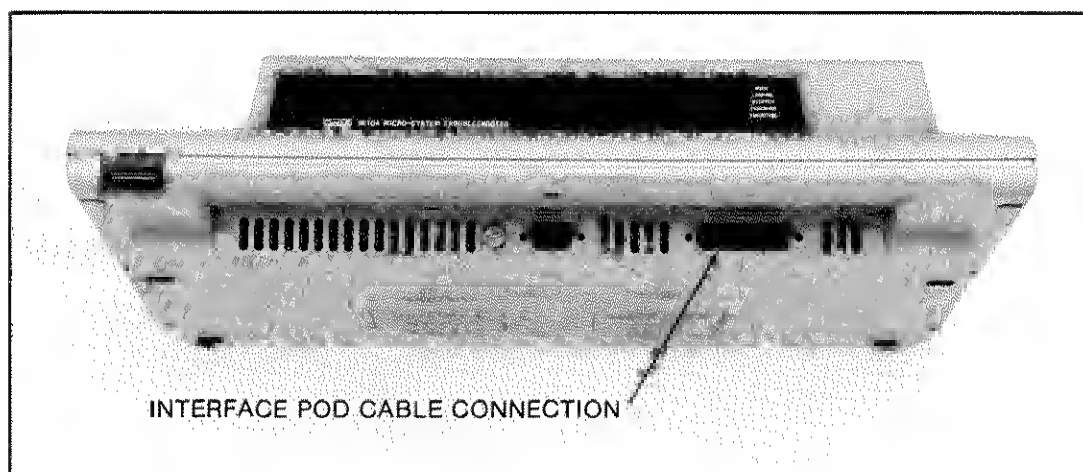

Figure 4A-1. Interface Pod Cable Connection
The interface pod cable plugs into a connector located on the front base of the main instrument under the keyboard. The location of the connector is shown in Figure 4A-1. The cable plug has a sliding metal collar which slides over small metal posts on the connector to lock the plug firmly in place.
1. Tip up the front of the main instrument to allow access to the connector. This is demonstrated in Figure 4A-1. Be sure 9010A power is off.